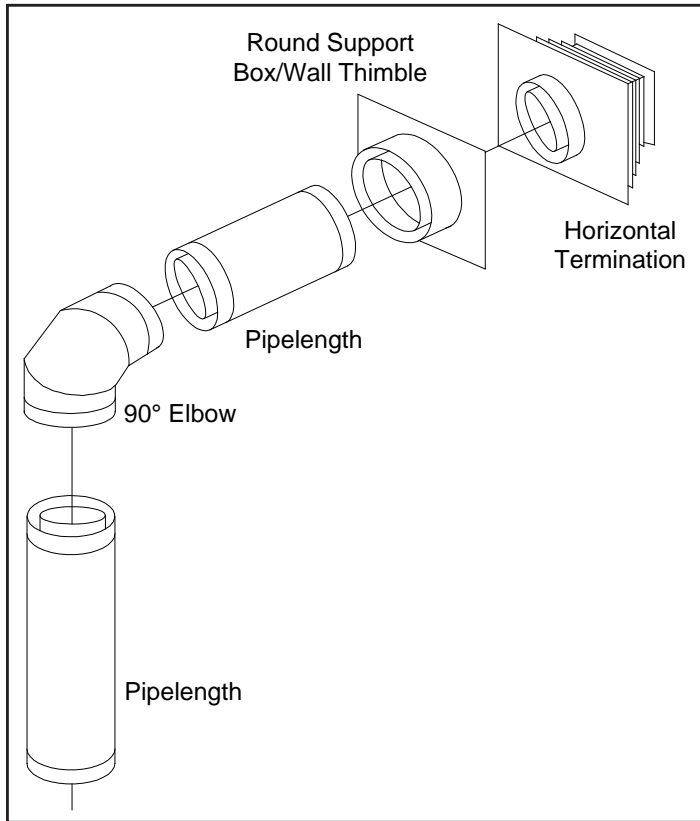

Figure 16: Common Horizontal Installation.
There are three (3) basic types of Direct Vent System installations. The three (3) types of installations are shown in Figures 16 through 18.